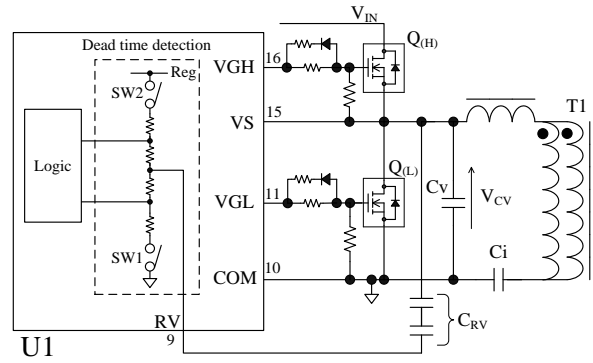

Figure 8-19. RV Pin Peripheral Circuit and Dead Time Detection Circuit
Figure 8-19 shows the RV pin peripheral circuit and the internal dead time detection circuit. The external components for this function is only high-voltage ceramic capacitor, C_{RV} , connected between the VS pin and the RV pin. The value of C_{RV} is about 5 pF.
After $Q_{(L)}$ turns off, SW2 is turned on while SW1 is kept on state. The resonant current flows through C_V , C_i and T1 (refer to Figure 8-19) and the C_V voltage, V_{CV} , increases from 0 V. When V_{CV} becomes Equation (11), the resonant current flows through the body diode of $Q_{(H)}$ and V_{CV} is clamped $V_{IN} + V_{F(H)}$. The period that until V_{CV} is clamped after V_{CV} starts to increase is defined as the voltage resonant period.
• **Q_(H) Turns Off**
After Q_(H) turns off, SW1 is turned on while SW2 is kept on state. The resonant current flows through C_V, C_i and T1 (refer to Figure 8-19) and the C_V voltage, V_{CV}, decrease from the input voltage, V_{IN}.